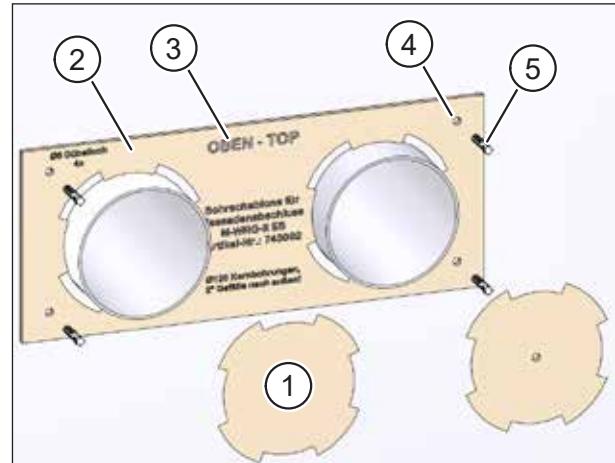

Fig. 11: Drilling the holes
- ▶ Press the pre-punched cut-outs (item 1 in Fig. 11) for the ventilation pipes out of the drilling template (item 2 in Fig. 11).
- Note the “OBEN (TOP)” (item 3 in Fig. 11) printed on the drilling template.
- ▶ Use the 6 mm masonry bit to drill four holes, roughly 40 mm deep, in the external wall at the points indicated on the drilling template (item 4 in Fig. 11).
- ▶ Insert the four dowels provided (item 5 in Fig. 11) into the holes.